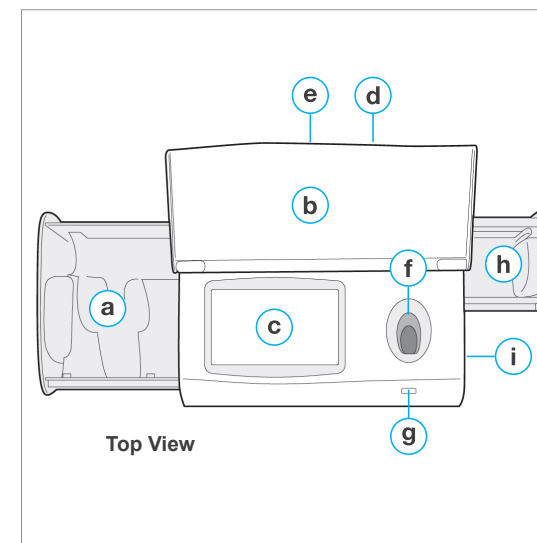

Figure 2 The parts of the Base Station
1. **CELLECTRA® 5PSP Base Station:** a reusable component, which serves as a charging dock for the Handset and can accept limited data inputs as well as store records (Figure 2).